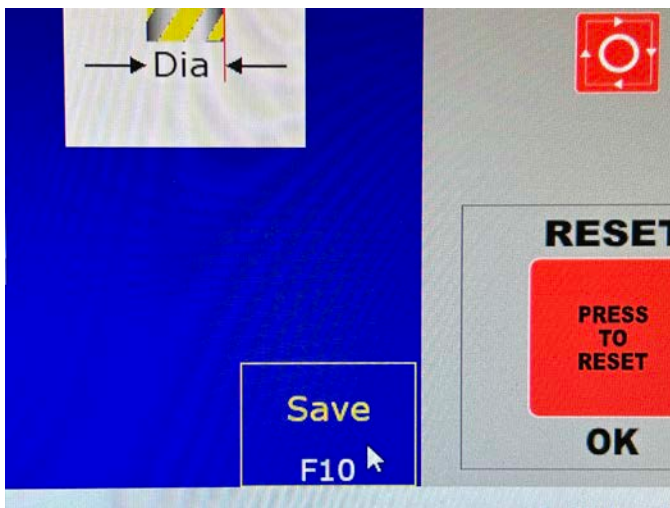

FIGURE 37
- Click on Save F10 to save the value. The value color will change to yellow when it is saved (see Figure 37).